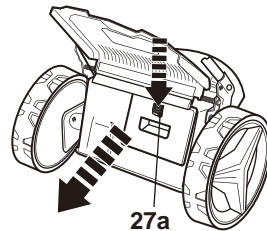

Fig. 15
2. Press the unlock button (27a) down to release and remove the mulching insert (27) (Fig. 15).